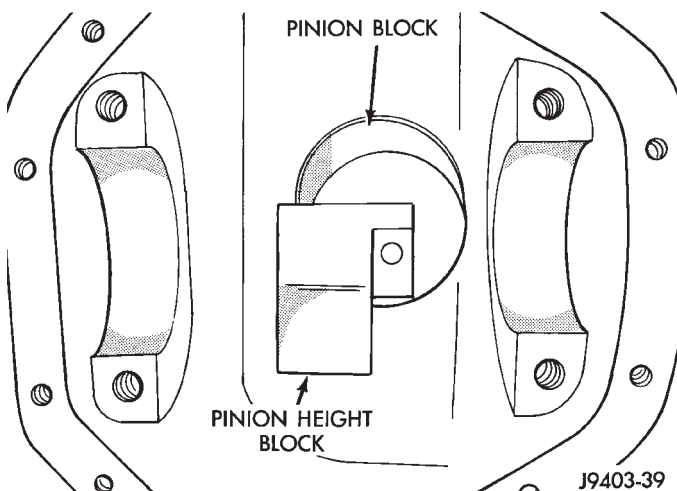

Fig. 67 Pinion Height Block—Typical
(2) Insert assembled height gauge components, rear bearing and screw into axle housing through pinion bearing cups (Fig. 67).